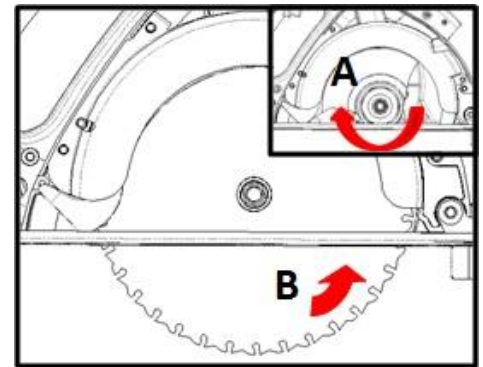

Fig.4
4. Open the blade guard (A) and remove old blade. Align new blade with inner flange and install the new blade and check for proper blade orientation (B). Fig.4